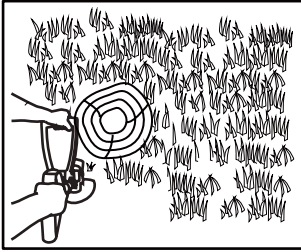

Fig 17
4. Fold the plant protector out to avoid bringing the cutting device into contact with hard objects such as walls and kerbstones (Fig 17,18).